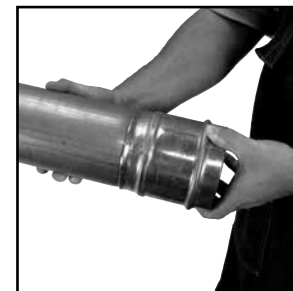

Figure 9: Inspection of final crimp
1. Inspect the crimped fitting or valve to ensure proper crimp. The final crimp should appear pressed uniformly around the fitting or valve (Figure 9).